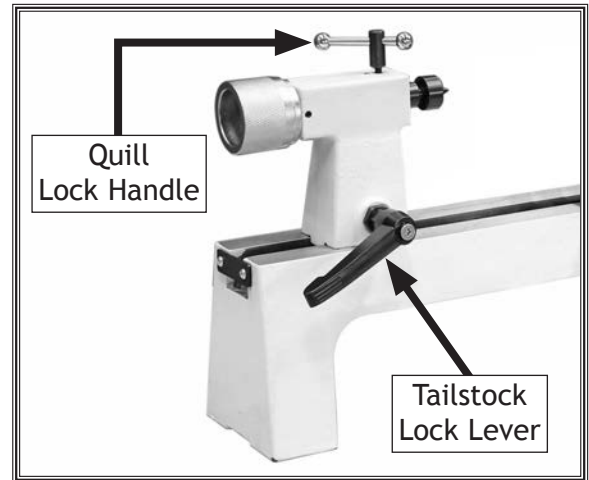

Figure 8. Hardware installed on tailstock.
1. Install tailstock lock lever and M6-1 x 17 quill lock handle, as shown in **Figure 8**.